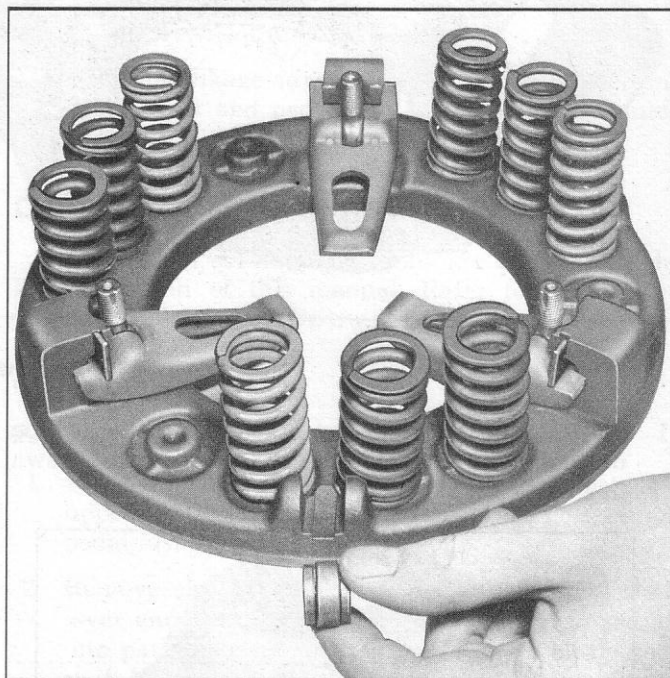

Fig. 17—Installing Rollers
8. Install centrifugal rollers in proper seats, as shown in Figure 17.